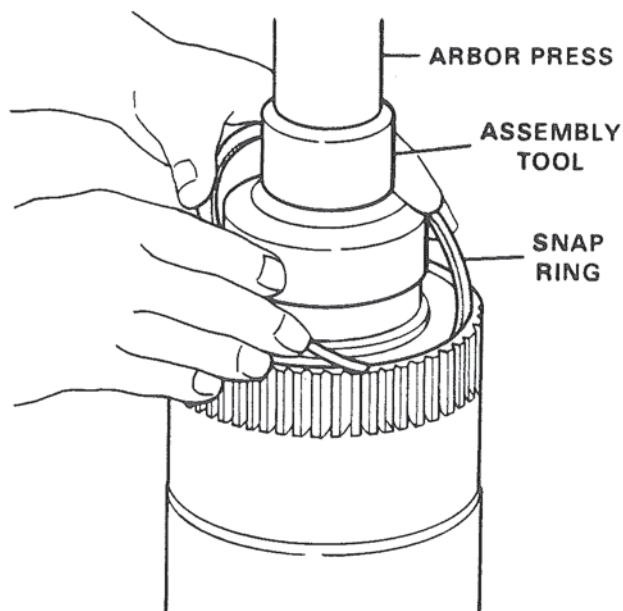

Figure 57. Installing Ring Gear Snap Ring.
13. While maintaining load from arbor press, assemble ring gear snap ring. Figure 57. Tap ring while in place to insure full seating of ring in groove.